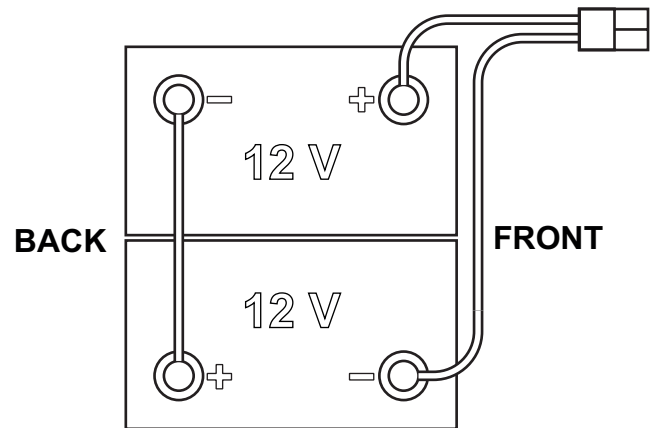

Figure 1
The machine requires 2 12V batteries, connected according to the diagram shown in Figure 1.
1. Remove the operator key (41).
2. Disconnect the battery connector by pressing the emergency push-button (5).
3. Lift the cover (18) and check that the recovery tank (17) is empty, otherwise empty it with the drain hose (26).
4. Close the cover (18).
5. Grasp the handle (35) and carefully lift the recovery tank assembly (17).
8. Route and install the battery cable as shown in Figure 1, then carefully tighten the nut on each battery terminal.
9. Place the protection cap on each terminal, then connect the battery connector (6).
10. Disengage the support rod (36), then grasp the handle (35) and carefully lower the recovery tank assembly (17).